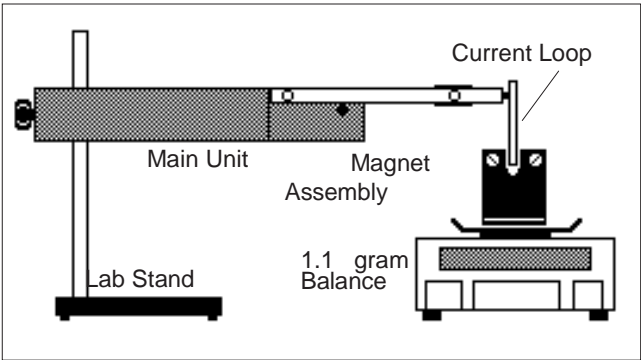

Figure 2.1 Equipment Setup
- ① Set up the apparatus as in Figure 2.1.
- ② Determine the length of the conductive foil on the Current Loop. Record this value under “Length” in Table 2.1.
① Set up the apparatus as shown in Figure 2.1. Use the shortest length current loop.